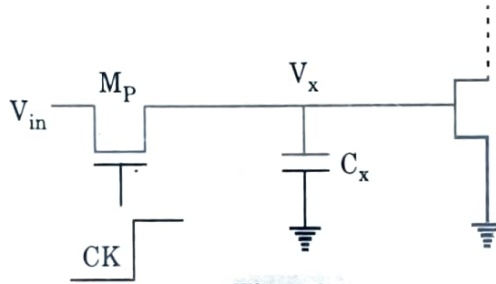

Fig. 3.3.1.
1. The fundamental building block of nMOS dynamic logic circuits consisting of a nMOS pass transistor driving the gate of another nMOS as shown in Fig. 3.3.1.